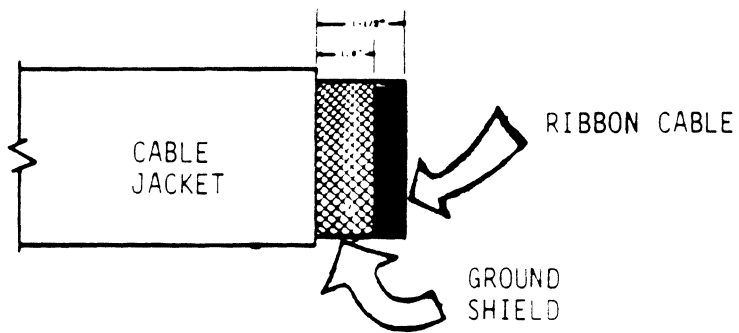

Figure 3-10. Cable Jacket
- a. Remove approximately 1-1/2 inches of the cable jacket on the transport end of the I/O cables (Refer to figure 3-10).